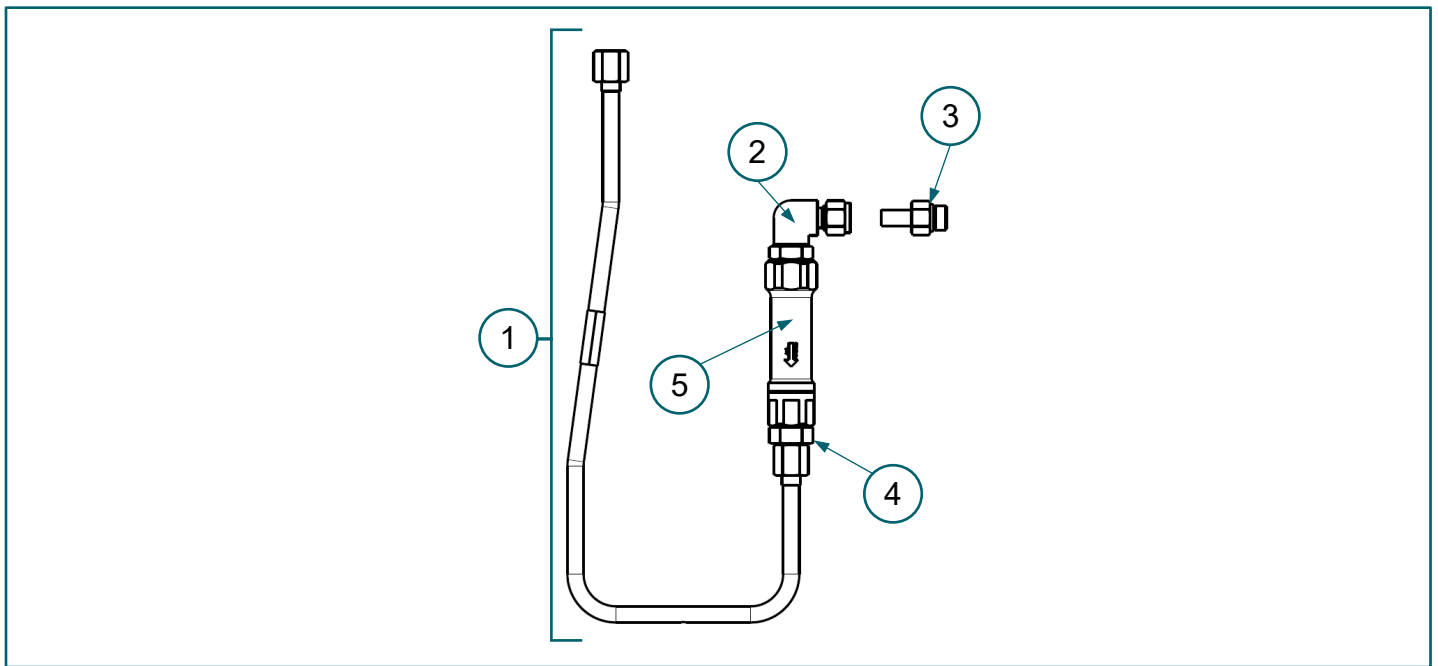
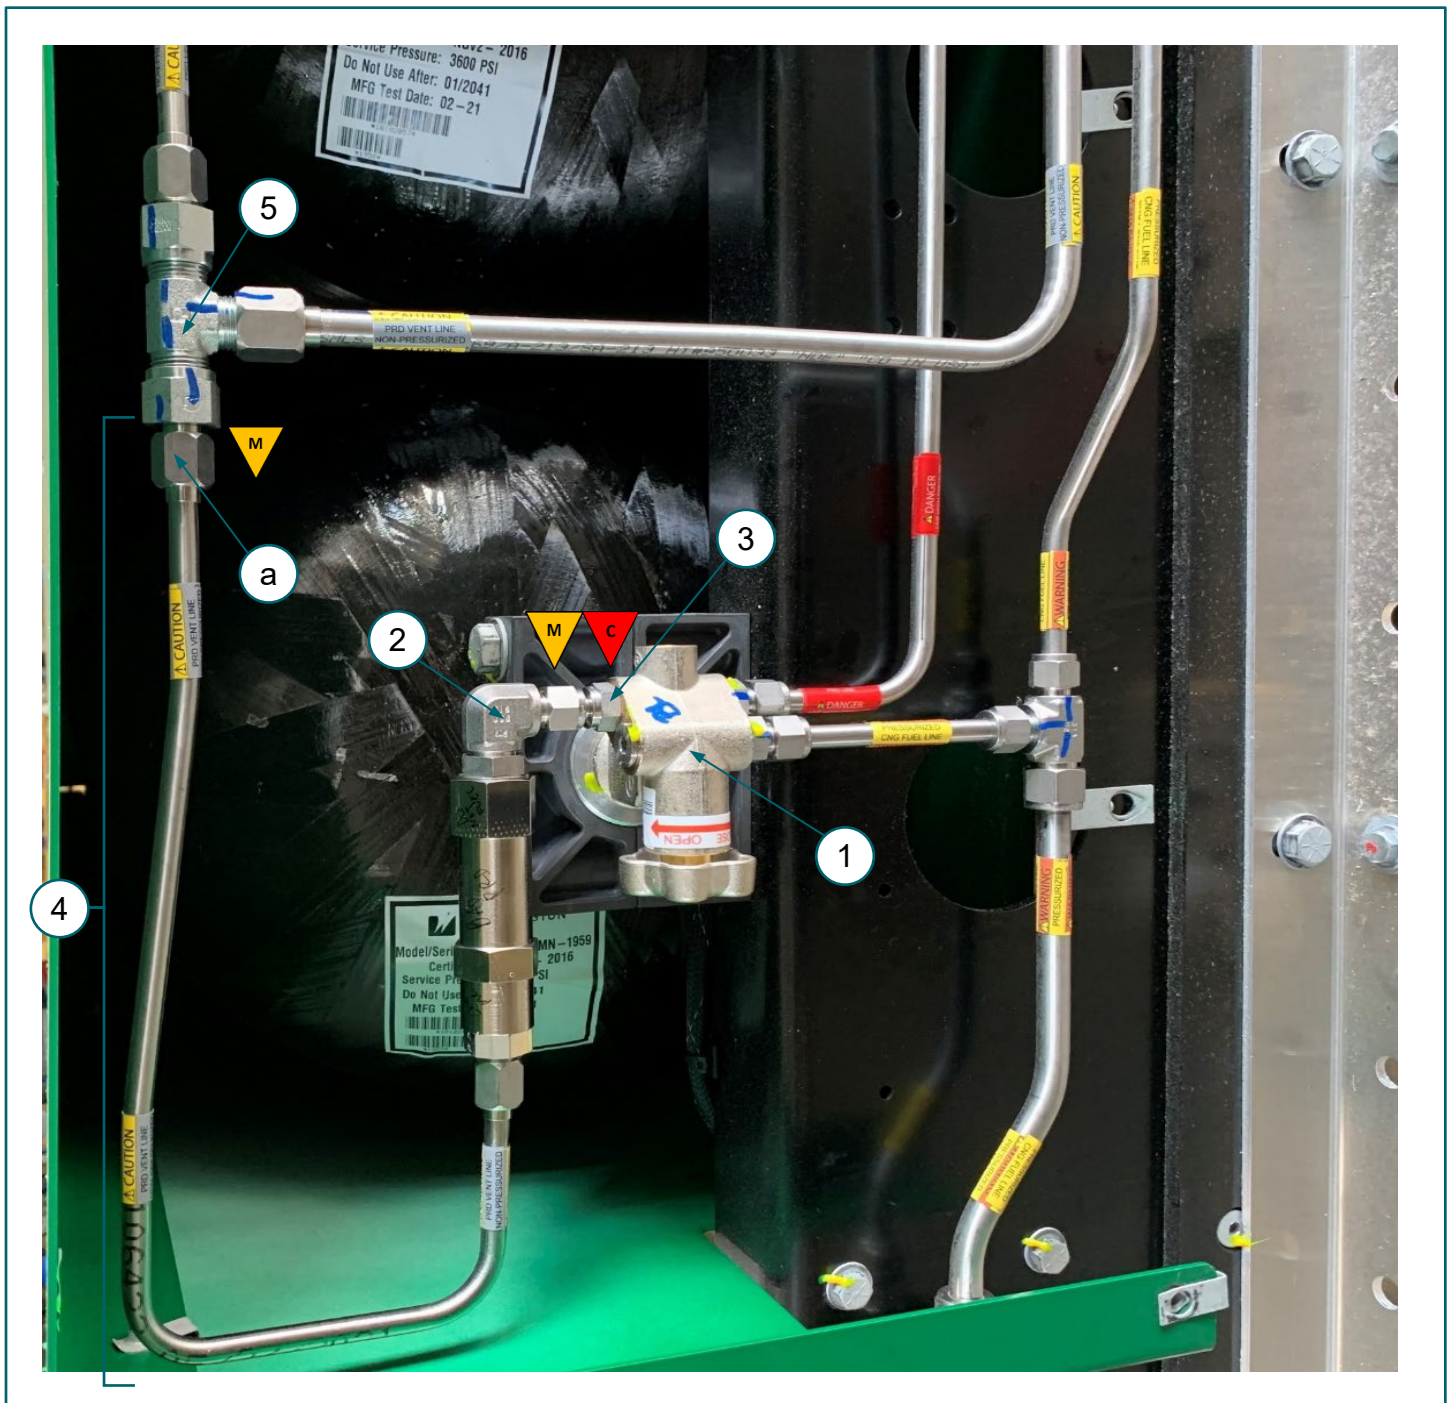

FIGURE 4. Lower PRD vent tube assembly and male tube adapter fitting
FIGURE 5: Lower cylinder valve plumbing after installation of lower PRD vent tube assembly
5. Use a 9/16-in wrench to install (3) male adapter fitting, p/n 10200236, from retrofit kit on lower cylinder valve (*not shown*). FIGURE 4 and FIGURE 5
6. Use a 11/16-in wrench to install (1) lower PRD vent tube assembly while using a 5/8-in wrench to hold (2) elbow fitting, p/n 10200181. **FIGURE 4** and **FIGURE 5**
7. Use a 11/16-in wrench to install (a) nut fitting of (1) lower PRD vent tube assembly on (5) tee fitting, p/n 10200181. **FIGURE 5**